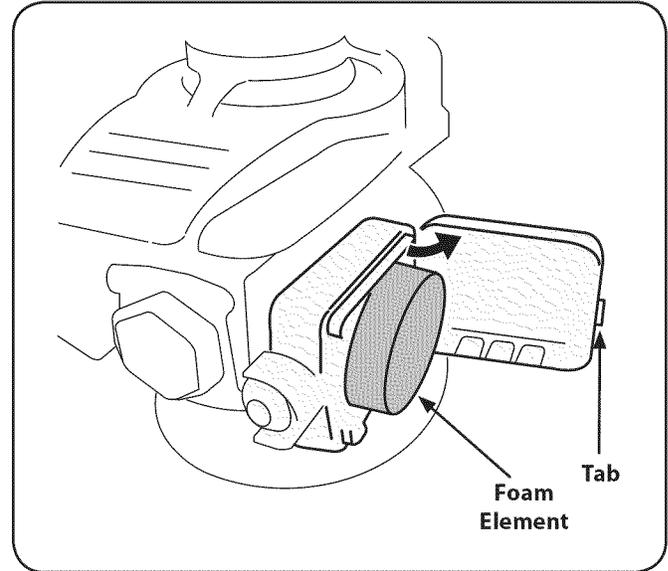

Figure 10-2
1. Open air cleaner cover by pressing down and back on cover to release tab. See Fig. 10-2. Clean foam element or replace when damaged.